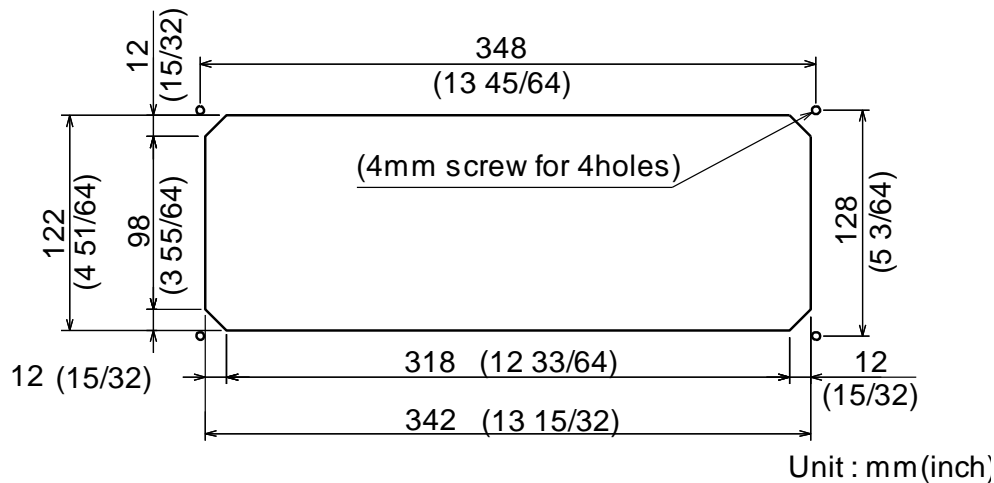

Figure 3.11 Cutout Diagram for Operation unit
- (1) Cut an opening as shown in Figure 3.11 in desired location on a panel.
- (2) Mark position of mounting holes.